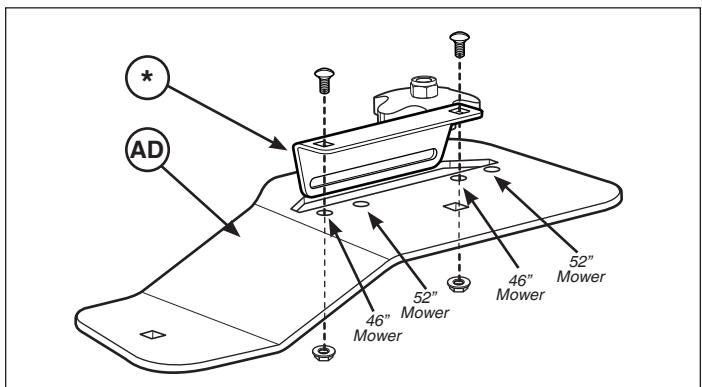

Figure 6
4. The height of cut bracket (*, Figure 6) is pre-assembled onto the turbo belt cover (**AD**). Placement of the bracket needs to be assembled in the appropriate hole placements to accommodate the 46" or 52" mower decks. See Figure 6.